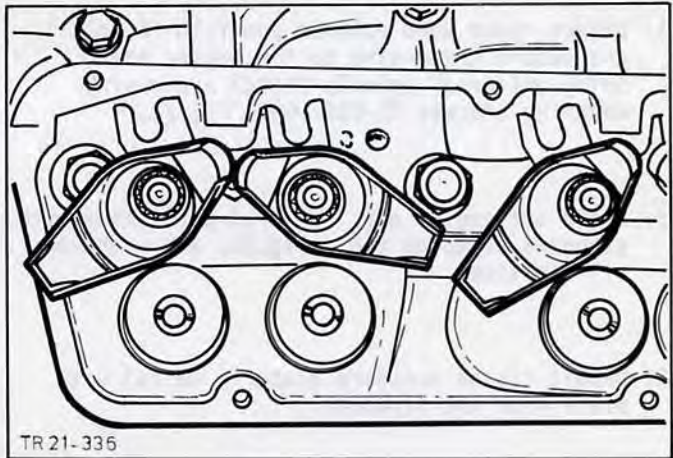

Fig.31. Rocker arms swung aside.
10. Remove the rocker covers (12 bolts). Release rocker arms, swing to the side and lift out pushrods, Fig.31.